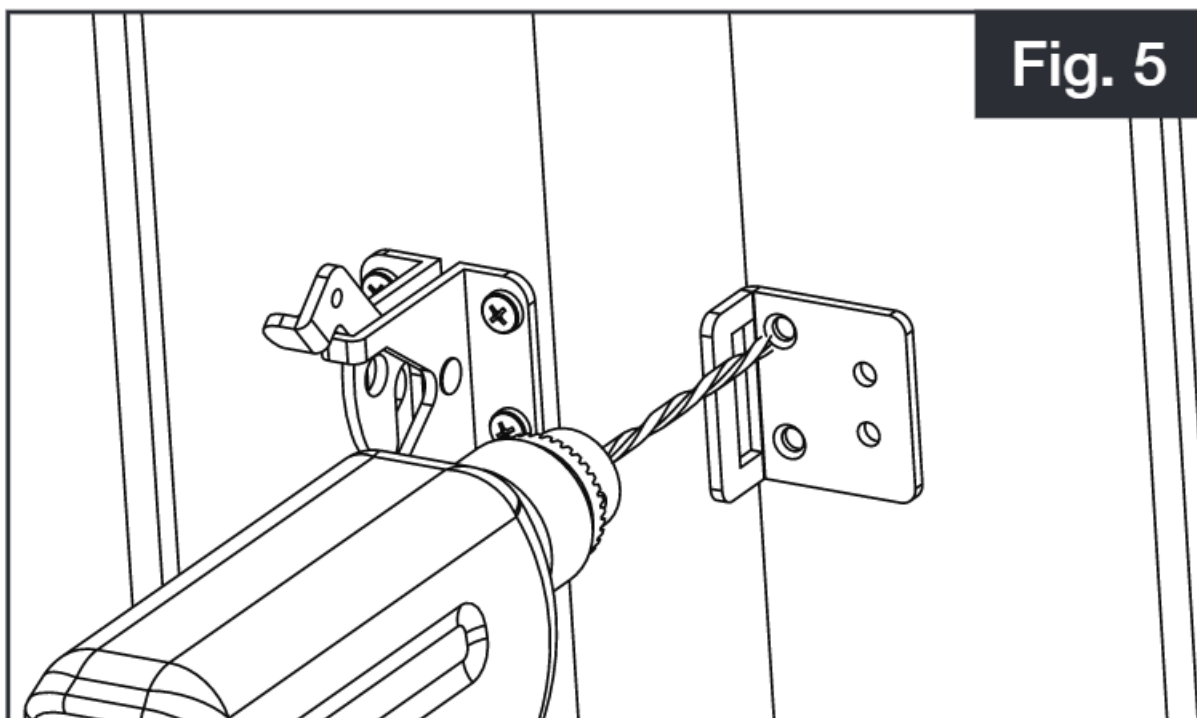

Fig. 6
a. Drill two 1/8" pilot holes in the rear holes (Fig. 6).